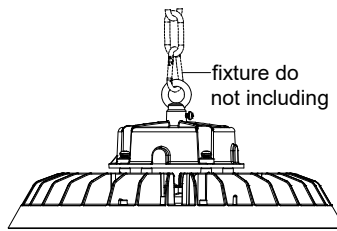

Figure 2
② Hang the fixture on the ceiling hook or chain(Figure2)